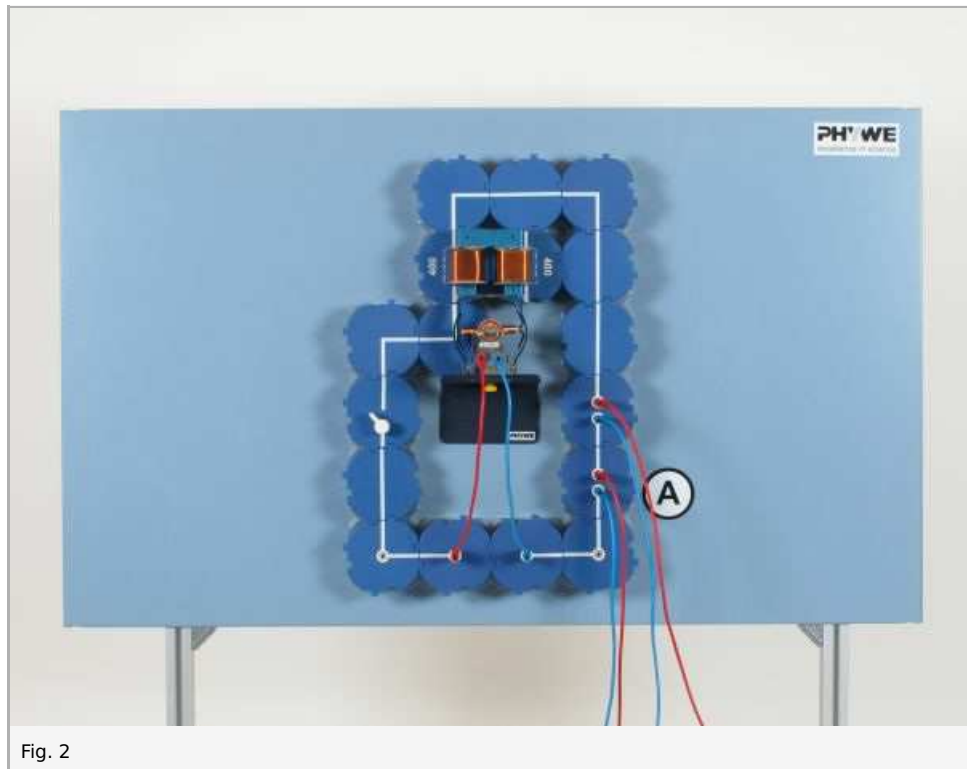

Fig. 2
- Close the switch; notice the direction of rotation of the armature and compare it with the direction previously determined (1)
- Close the switch; notice the direction of rotation of the armature and compare it with the direction that it had to start with (2)
- Vary the operating voltage between 4 V and 6 V and note the direction in which the armature rotates (3)
- Again set and operating voltage of 6 V and place a load on the motor by finger braking the front belt pulley; observe the speed of rotation and the behaviour of the ammeter (4)
- With the switch open, change the experimental set-up to that in Fig. 2; switch one of the two field coils out of the circuit and set the 3 A- measurement range
- Apply a voltage of 15 V-, close the circuit and observe the motor (5)